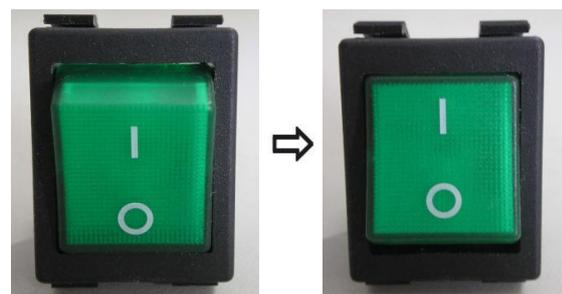

Fig. 7
- As Fig. 7 shows power switch, power off (left) and power on (right).